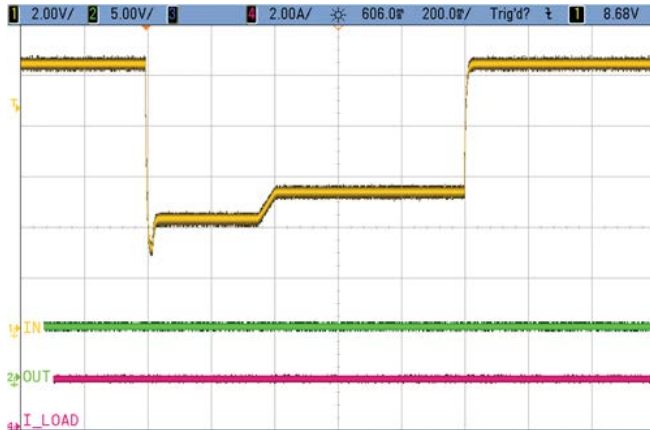

Figure 11. Results from an automotive cold crank test show that the SEPIC regulator's supply is a very stable 5V/2A rail during the automotive cold crank event.
**Figures 11 and 12** show the SEPIC regulator's behavior during an automotive cold-crank event, where the battery voltage goes down to 3V. In this reference design the dual-diode D2 is used to supply the input voltage to the MAX16990 from the converter's output when the battery voltage falls below the minimum input voltage of the controller IC.